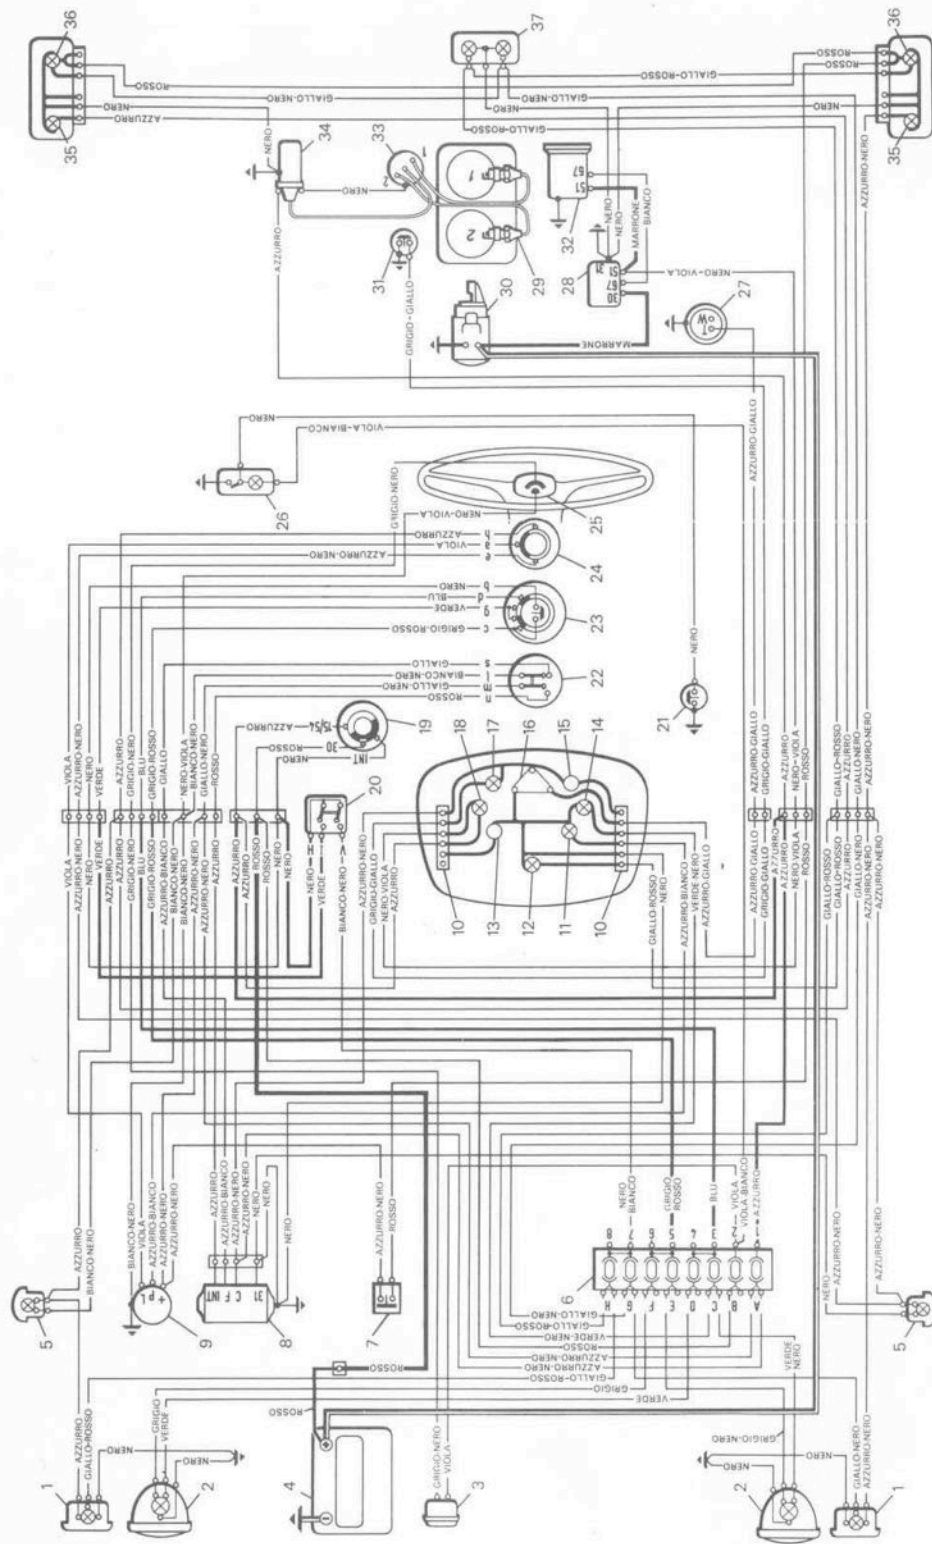

FIG 13-1 Wiring diagram for Fiat 126
**Key to Fig 13-1** 1 Front parking and indicator lights 2 Headlamps 3 Horn 4 Battery 5 Indicator repeaters 6 Fuses 7 Stoplight switch 8 Wiper motor 9 Flasher unit 10 Junctions 11 Indicator warning (green) 12 Parking warning (green) and instrument light 13 Spare indicator 14 High beam warning (blue) 15 Spare indicator 16 Fuel gauge 17 Oil pressure warning (red) 18 No-charge warning (red) 19 Ignition and starting switch 20 Exterior lights switch 21 Courtesy light switch 22 Wiper switch 23 Dipswitch and headlamp flasher 24 Indicator switch 25 Horn button 26 Courtesy light 27 Fuel gauge sender 28 Regulator 29 Sparking plugs 30 Starter motor 31 Low oil pressure sender 32 Generator 33 Distributor 34 Ignition coil 35 Rear indicators 36 Tail and stoplights 37 Number plate lights